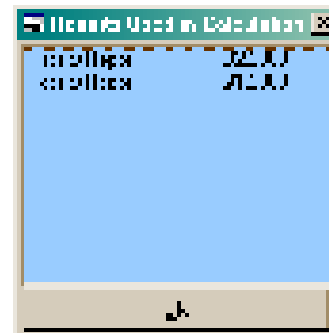

Figure 8.21 Reports Used in Calculation window.
- Click Reports Used to view the list of reports that were used to calculate the selected facility's need. The Reports Used in Calculation window (Figure 8.21) is displayed.